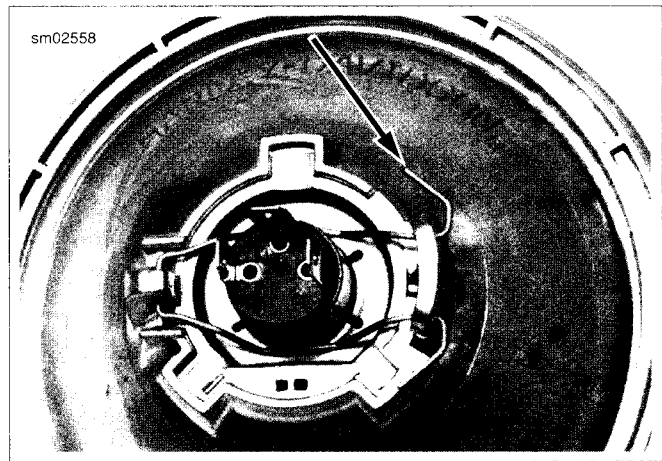

Figure 7-27. Wire Retaining Clip
3. Remove rubber boot (2) from back of headlamp assembly (4).
4. See Figure 7-27. Squeeze wire retaining clip ends to unhook them from notches in headlamp assembly.
2. Remove mounting ring screws (20) and mounting ring that holds sealed beam headlamp in place.
4. Remove rubber boot (2) from back of headlamp assembly (4).
5. See Figure 7-27. Squeeze wire retaining clip ends to unhook them from notches in headlamp assembly.